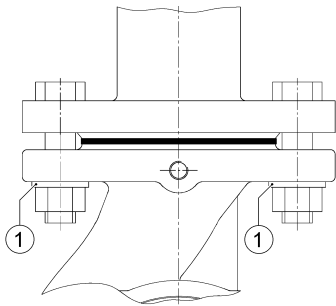

Fig. 12: Installation with combination flange
- The washers supplied (Fig. 12, item 1) must be inserted between the screw heads/nuts and the combination flange.